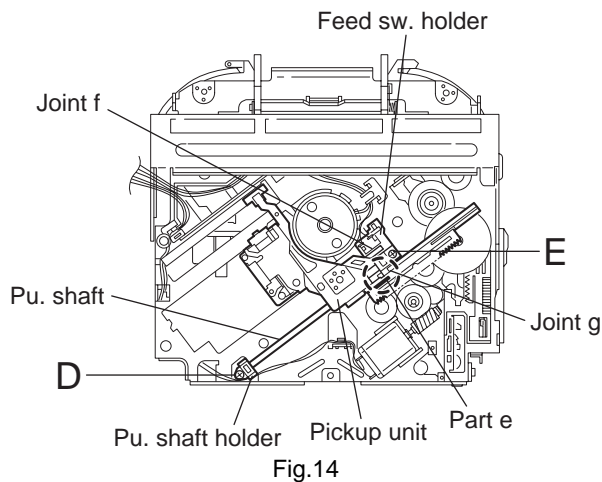

Fig.14
3.2.7 Removing the pickup unit (See Figs.14 to 18)
3.2.8 Reattaching the pickup unit (See Figs.14 to 17)